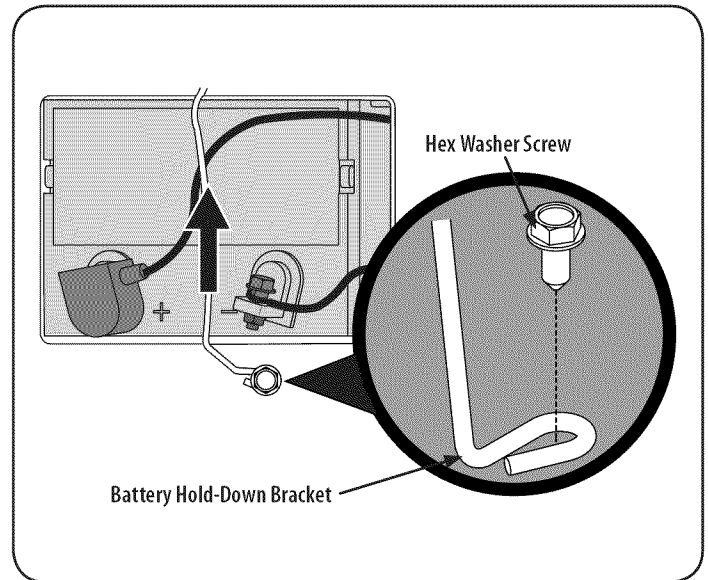

Figure 24
1. Remove the hex washer screw securing the battery hold-down bracket to the frame. Then flip the battery hold-down bracket up to free the battery. See Figure 24.